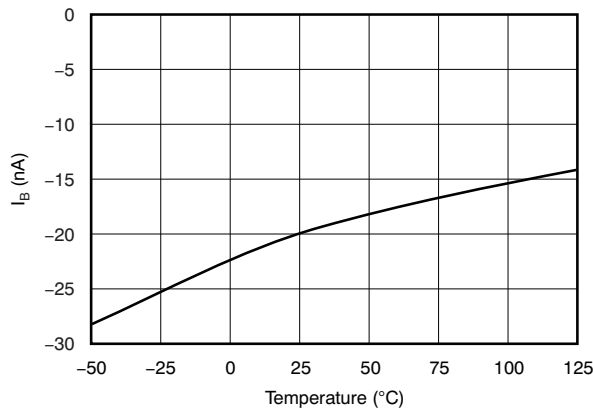

Figure 7.
(1) See Typical Characteristics curve (Figure 7).